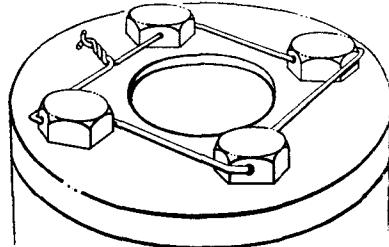

Fig. 8. Locking wire
f. Locking wire. The nut or bolt to be secured is supplied already drilled. After tightening the thread, a steel wire is passed through the hole and secured to companion bolts or to the component (Fig. 8). The lay of the wire must be such that it comes under tension as the bolts tend to slacken. To be effective the wire must be tight and it can be used *once* only.